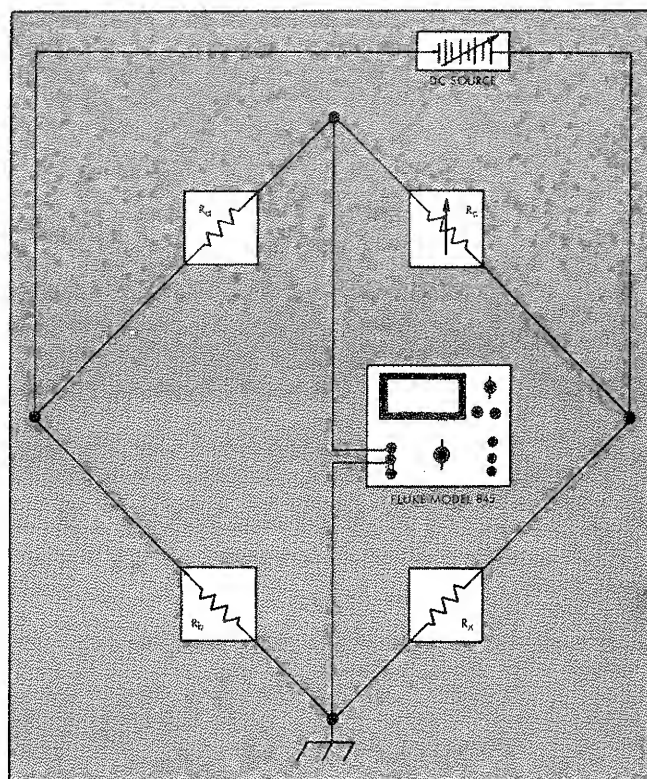

Figure 2-2. BRIDGE DETECTOR-FLOATING SUPPLY
2-16. The Model 845 may be used to monitor small voltage differences in bridge circuits, potentiometers, and other measuring apparatus. In most of these applications the circuits are adjusted for zero deflection or a null on the Model 845. Equipment connections for various types of null detector configurations are illustrated by Figure 2-2 through 2-4. To operate the Model 845 as a Null Detector perform the preliminary operations according to paragraph 2-5 and proceed as follows:
- Select the desired equipment application as illustrated by Figure 2-2 through 2-4 and make the appropriate equipment connections.